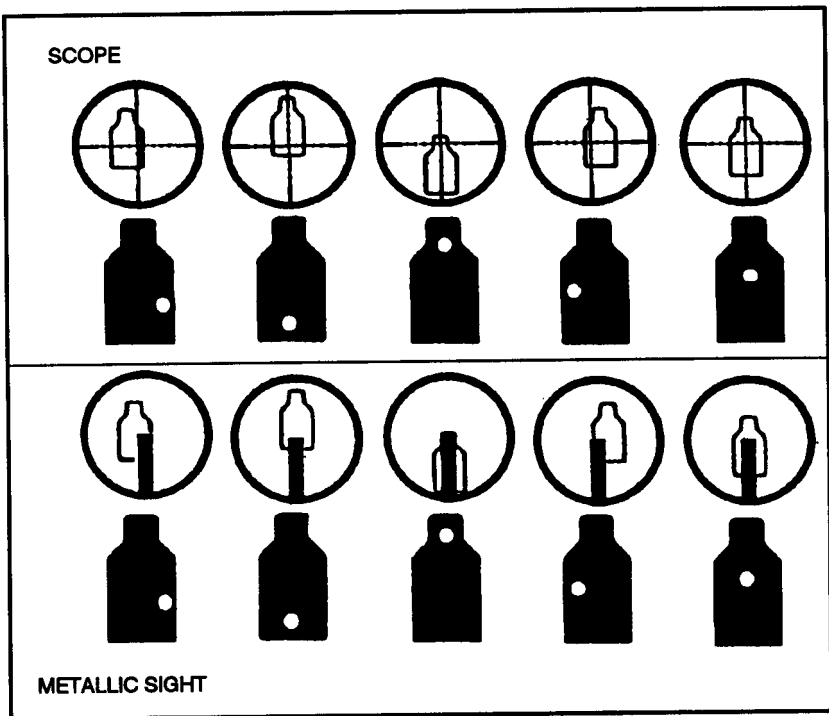

Figure 3-18. Sight picture.
e. **Sight Picture.** With telescopic sights, the sight picture is the relationship between the reticle and full field of view and the target as seen by the sniper. The sniper centers the reticle in a full field of view. He then places the reticle center of the largest visible mass of the target (as in iron sights). The center of mass of the target is easiest for the sniper to locate, and it surrounds the intended point of impact with a maximum amount of target area. With iron sights, sight picture is the relationship between the rear aperture, the front sight blade, and the target as seen by the sniper (Figure 3-18). The sniper centers the top edge of the blade in the rear aperture. He then places the top edge of the blade in the center of the largest visible mass of the target (disregard the head and use the center of the torso).